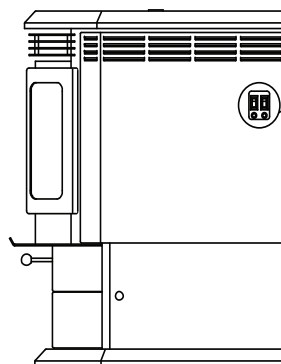
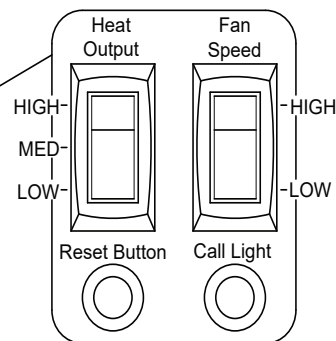

Figure 10.1
Figure 10.2
3. Occasionally the appliance may run out of fuel and shut itself down. When this happens, the red call light will be on. **See Figure 10.2, page 10.** To restart it, fill the hopper and press the reset button. **See Figure 10.1, page 10.** When you press the reset button the red call light will go out. Release the button and the light will come back on. You should see a fire shortly. If not, follow the instructions on **page 10**, of "Starting Your First Fire".